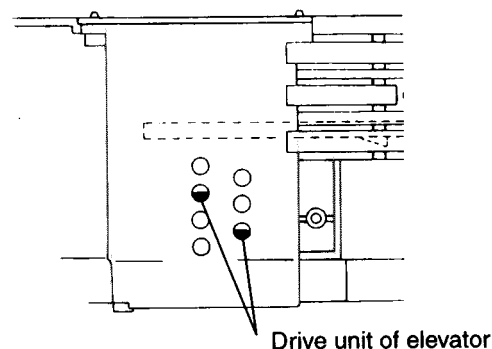
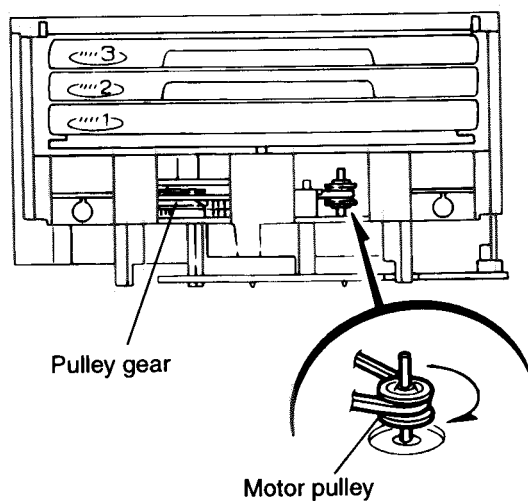

Fig.7
Fig.8
[Caution] In case the driver unit elevator is not at above position, set the elevator to the position as shown in Fig.7 by manually turning the pulley gear as shown in Fig.8.
13. Manually turn the motor pulley in the clockwise direction until the lifter unit stopper is lowered from the section E of CD tray assembly(See Fig.8).